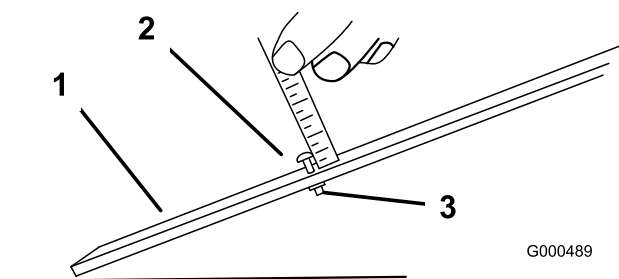

Figure 49
3. Loosen the nut on the gauge bar (Figure 49) and set the adjusting screw to the desired height of cut. The distance between the bottom of the screw head and the face of the bar is the height of cut.